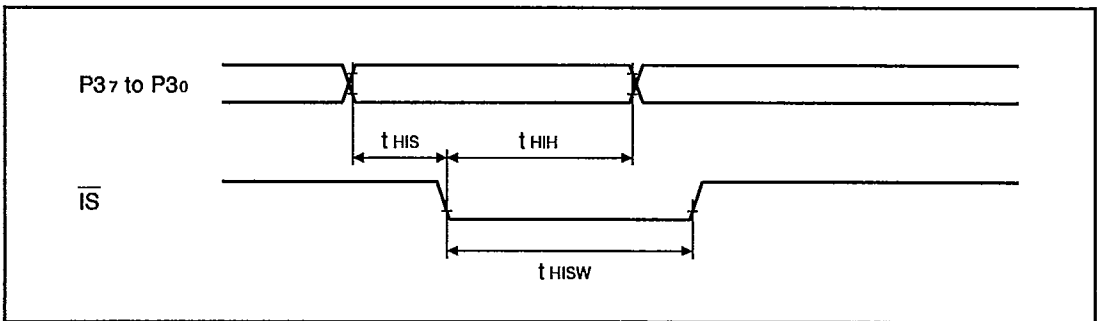

Figure 15-19. Input Strobe Input Timing
- 15.3.8 Parallel Handshaking Interface Timing Figures 15-19 to 15-21